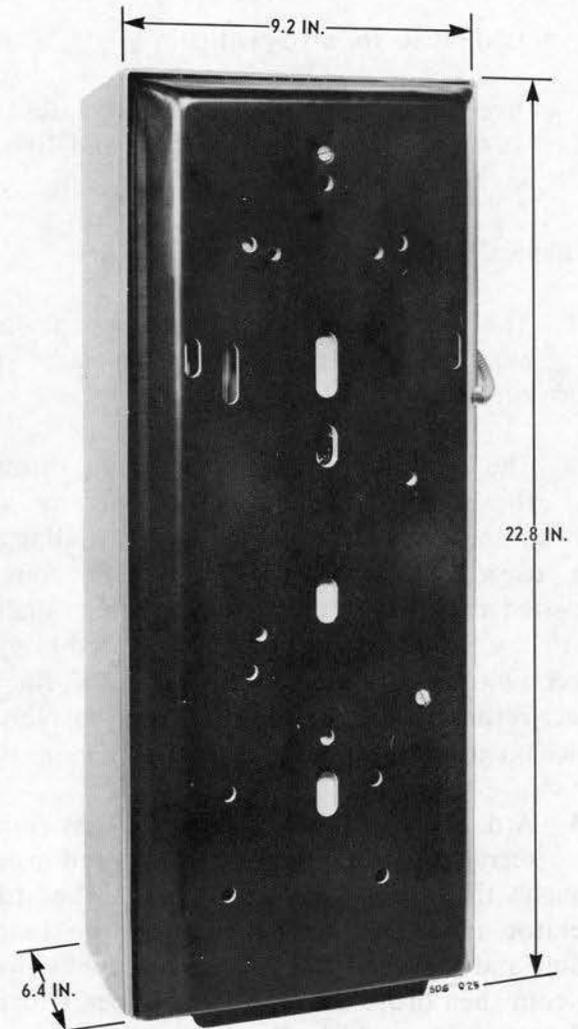

Fig. 2 – Rear View of CENTURION Coin Telephone Set
2.17 The dimensions of the CENTURION coin telephone set are shown in Fig. 2.